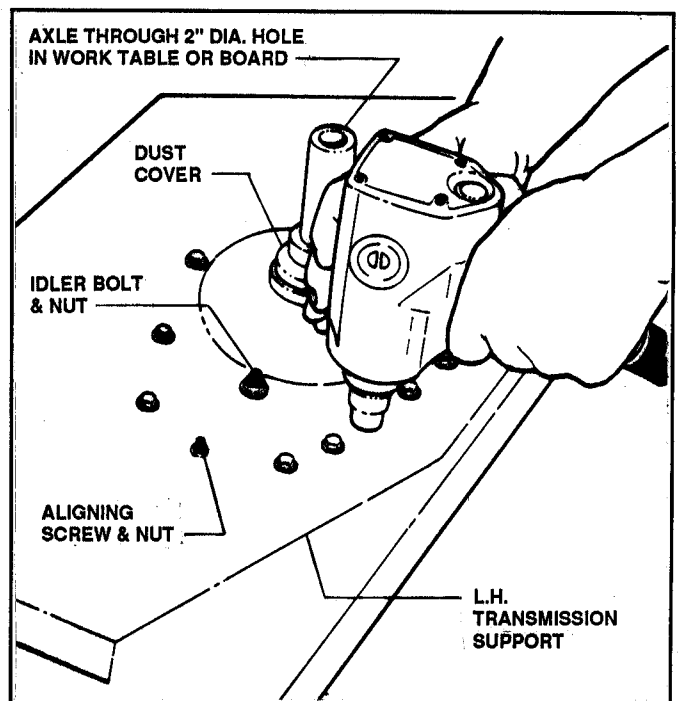

FIGURE 4.21
10. Remove L.H. Transmission Support (with Differential attached) and place in either a 2" diameter hole drilled in workbench or fabricated 2" x 4" wooden support. See Figure 4.21.
11. Remove the 14 self-tapping screws securing Transmission Case to L.H. Transmission Support. Remove the two nuts from the hex flange aligning screws and the hex flange locknut from the idler bolt. Refer to Figure 4.21.